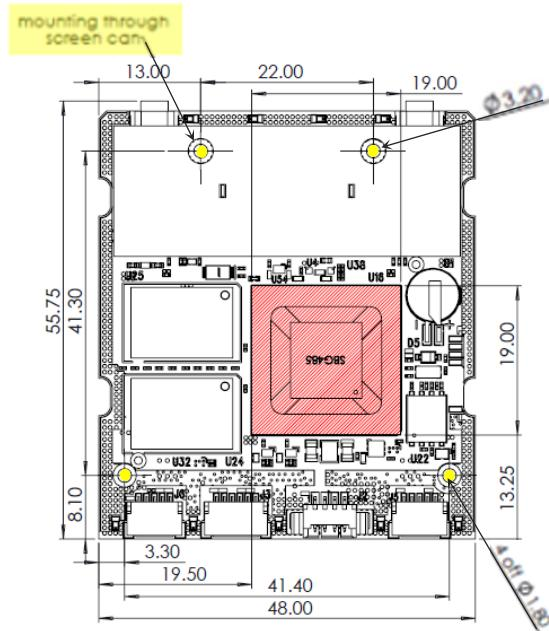
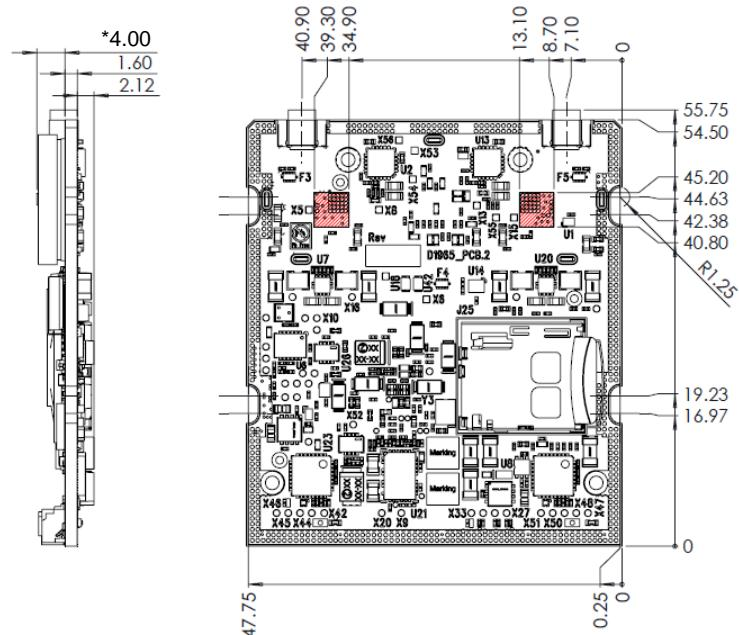
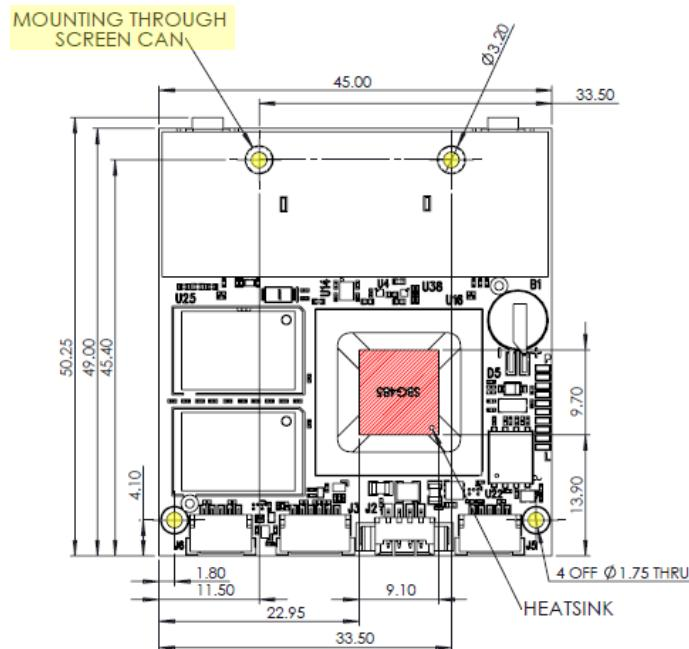
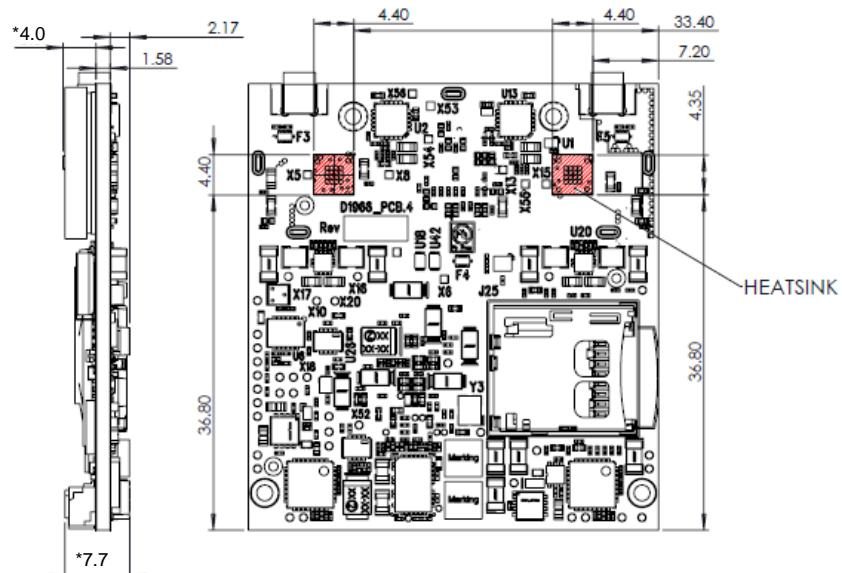

Figure 3-1: Top View
Figure 3-2: Side View and Bottom View
Figure 3-3: Top View
Figure 3-4: Side View and Bottom View
The BluSDR-6 can be mounted to a fixture using the four mounting holes, highlighted yellow in *Figure 3-1* and *Figure 3-3*. The maximum screw diameter is 1.6mm.
- FPGA device U16 on the top side of the PCB, see *Figure 3-1* and *Figure 3-3*
- RF copper plane on the bottom side of the PCB (read caution below), see *Figure 3-2* and *Figure 3-4*
Note: Frequencies below S-band are particularly sensitive to EMI. Therefore, DTC have incorporated a copper track on the perimeter of the PCB to help facilitate the integration of these variants. See *Figure 3-1* and *Figure 3-2*.